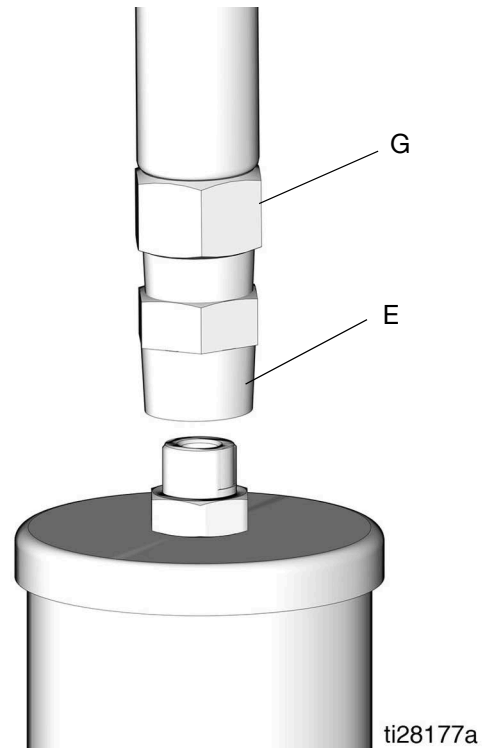

FIG. 6
3. Disconnect the lubricant supply line (G) from the pump outlet (E) (FIG. 6).
5. Run the pump a few strokes until grease, free of air, comes out of the pump outlet (E) (FIG. 6).